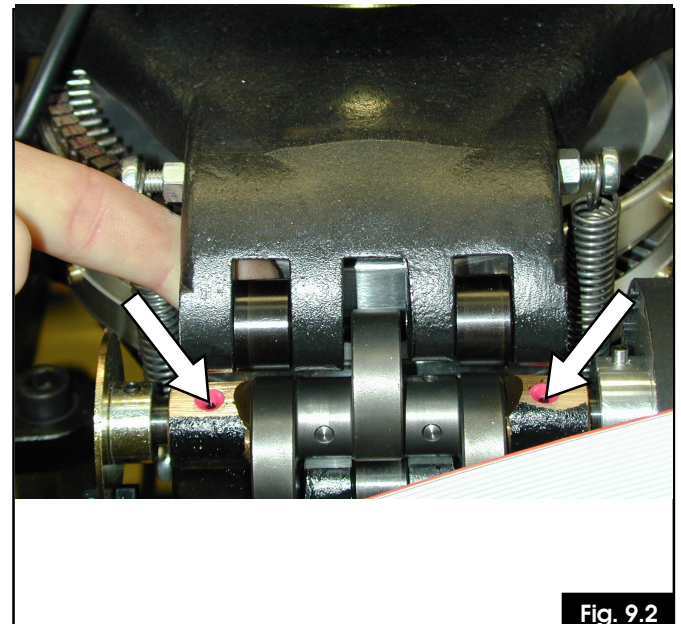

Fig. 9.2
- Refer to fig. 9.2, oil the holes indicated by the arrows that are on the machine. They are painted red and are around the jaws group of the Embosser.